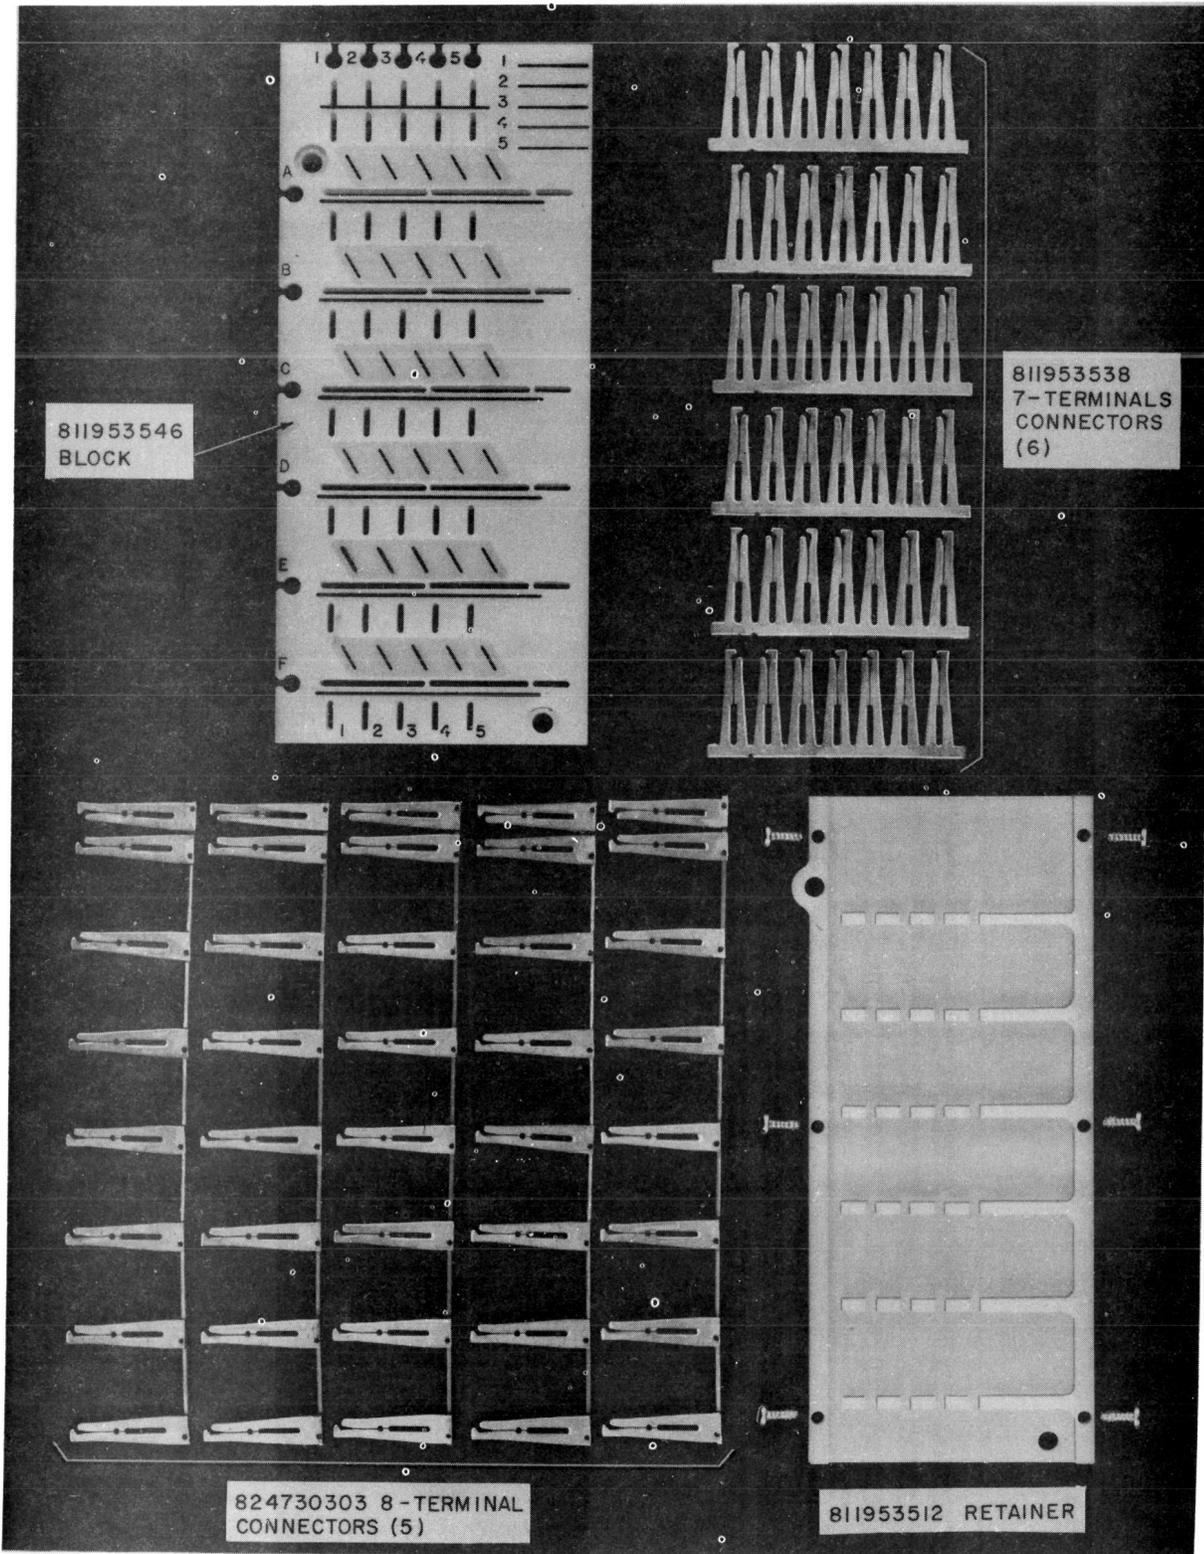

Fig. 2—1A1 Matrix Block—Components
2.03 The various components used in the assembly of a complete 1A1 Matrix Block are shown in Fig. 2. It will be noted that the cross-grid or MATRIX array consists of five vertically positioned rows of a 8-clip terminal (8-terminal connector). The uppermost clip is for the termination of connecting circuit leads. The bottom (end) clip serves as a multiplying point for extending the capacity of the matrix unit. Six rows of a 7-clip terminal (7-terminal connector) are positioned at right angles to these. The left-hand clip on each serves to terminate external circuit leads. The